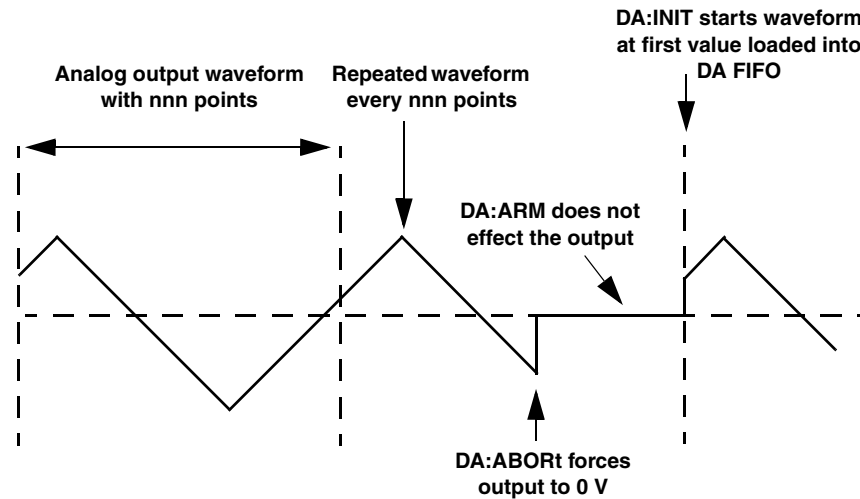

Figure 19: Abrupt Stop, Set Output Value to Zero
- **Abrupt stop, set output value to zero** – If you want the analog output operation to stop immediately and return the analog output value to 0 V, as shown in Figure 19, specify the optional *RETZero* parameter for the **DA:ABORT** command.